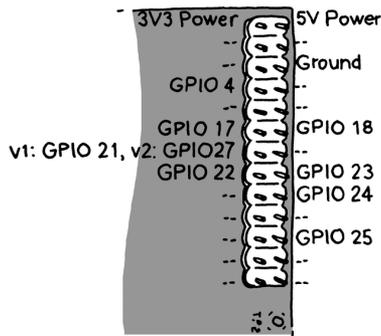

Figure 7-2. The default GPIO pins on the Raspberry Pi. In recent revisions of the board, GPIO pin 21 was swapped for GPIO pin 27.
In Figure 7-2, we've labeled each pin according to its default GPIO signal number, which is how you'll refer to a particular pin in the commands you execute and in the code that you write. The unlabeled pins are assigned to other functions by default.
You may have noticed that one of the pins has two different GPIO pin numbers in Figure 7-2. In recent versions of the board, GPIO pin 21 became GPIO pin 27. To determine the version of your board, type `cat /proc/cpuinfo` on the command line. If your revision number is listed as 0002 or 0003, you have the first version of the board. If you have a higher number, or a letter, you have a later version of the board.
1. Using a male-to-female jumper wire, connect pin 25 on the Raspberry Pi to the breadboard. Refer to Figure 7-2 for the location of each pin on the Raspberry Pi's GPIO header.